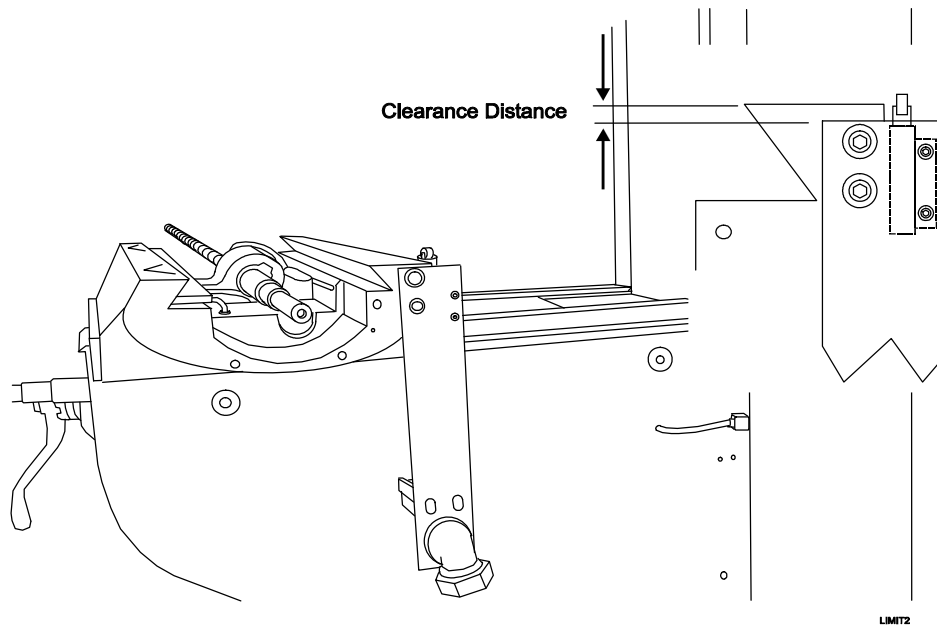

Figure 3-6, Mounting the Bracket
4. Mount the limit switch bracket to the saddle. Use the two 1/4-20 x 1" Allen screws, P/N 86100503; lock washers, P/N 66100112; and washers, P/N 66100106. Make sure the top of the bracket does not extend above the way surface. Refer to **Figure 3-6, Mounting the Bracket**.